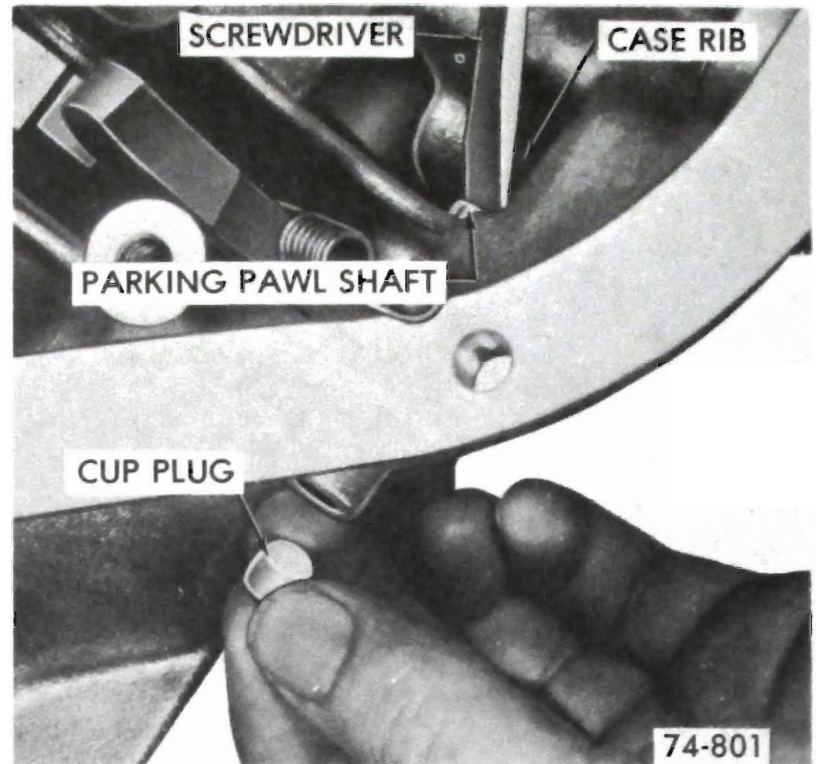

Figure 76-79
i. Remove parking pawl shaft cup plug by inserting a screwdriver between the parking pawl shaft and the case rib, and prying outward. See Figure 76-79.